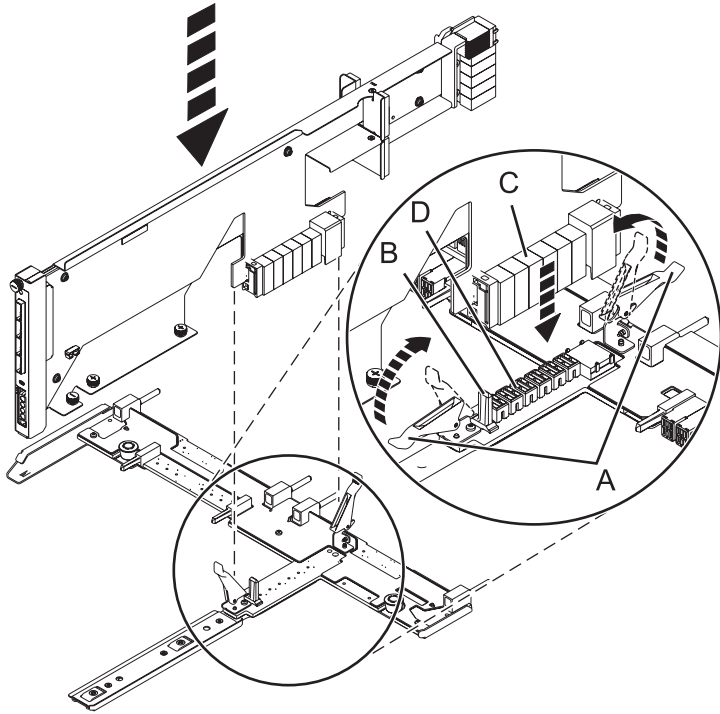

Figure 54. Installing the SAS conduit card into the midplane
- a. Place the card connector (C) on the midplane connection (D) using the guide track (B) to ensure a good connection.
- b. Lift the handle (A) to seat and secure the SAS conduit card to the midplane as shown in Figure 54 on page 71.